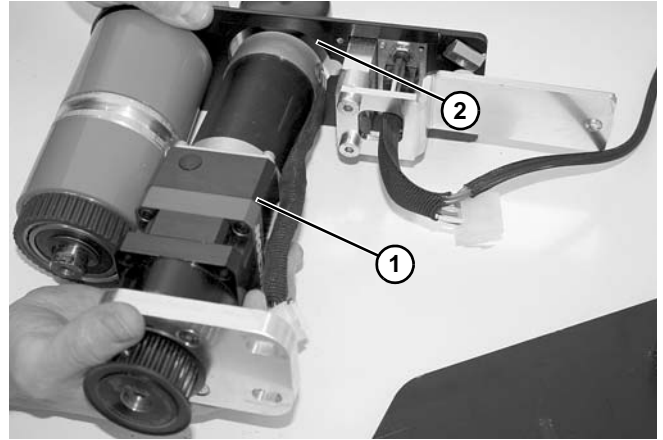

Figure 150
10. Slide drive motor (**Figure 150, item 1**) and remove from side plate (**Figure 150, item 2**).